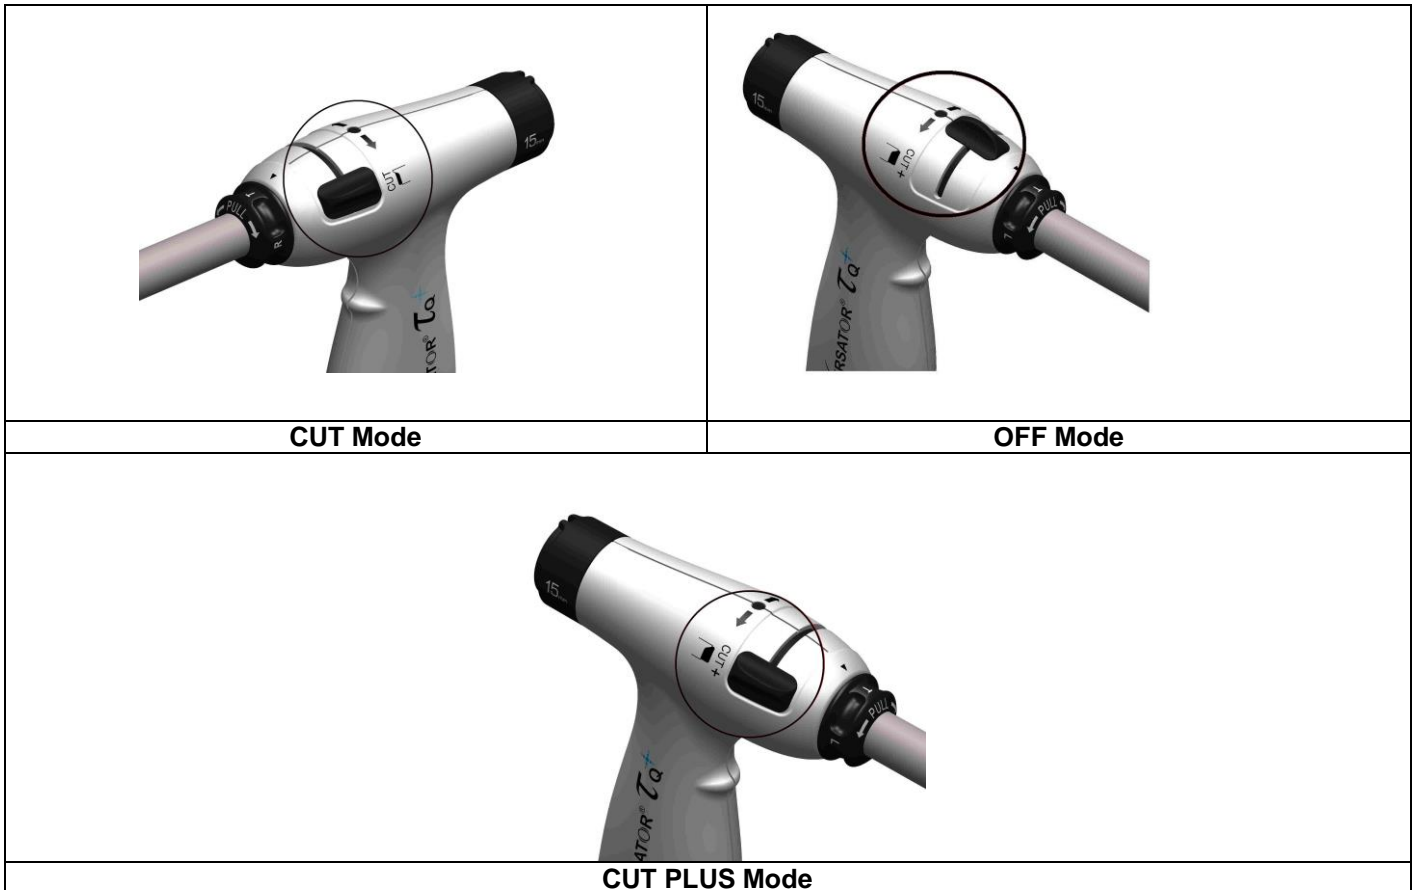

Figure 9: Rotatory Knob with “CUT”, “OFF” & “CUT PLUS” modes
5.1.5.2 After the Hand piece rotation has stopped, the Rotatory Knob is brought to the “OFF” position (Figure: 9). This will ensure that the blade gets secured before removing the Handpiece from the body.